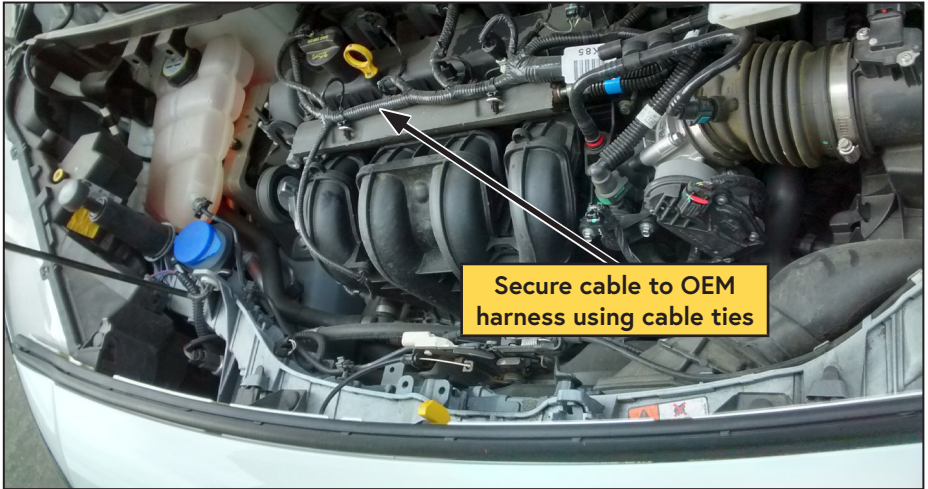

Figure 16 — Routing the tachometer cable
- Route the cable along the top of the engine and secure it to the OEM harness. Ensure the cable is adequately protected from any hot, sharp or moving parts (Figure 16).